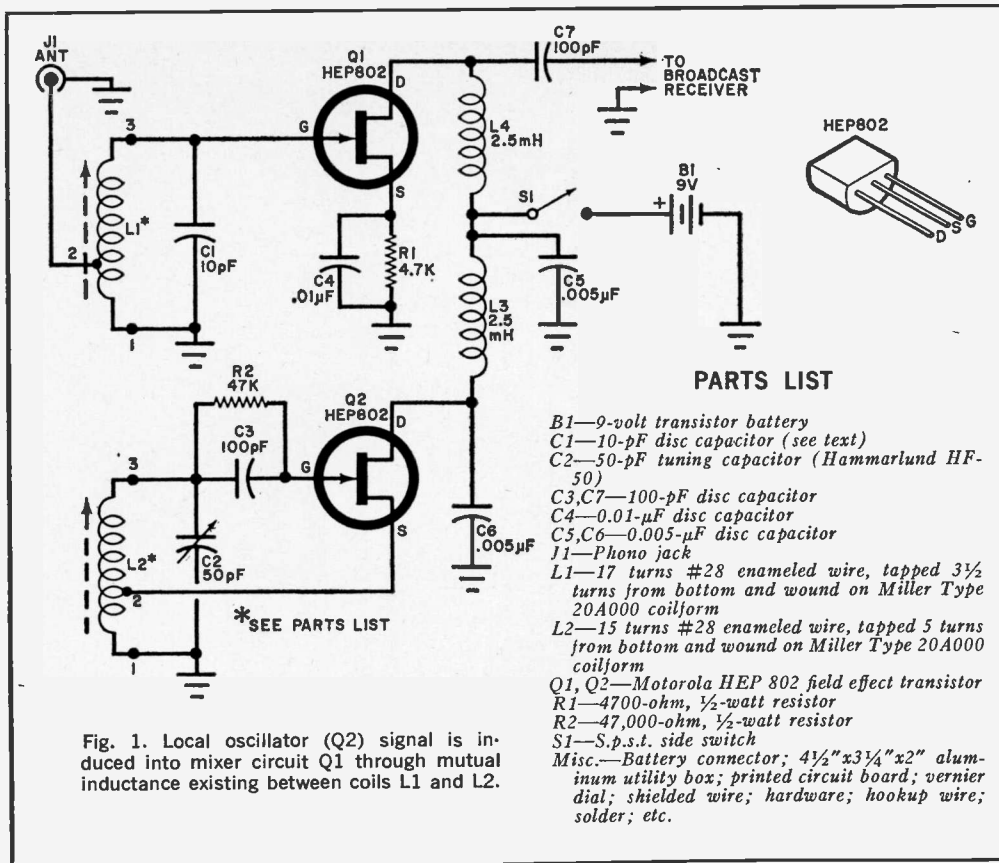

Fig. 1. Local oscillator (Q2) signal is induced into mixer circuit Q1 through mutual inductance existing between coils L1 and L2.
**About The Circuit.** The short-wave converter is designed to use to good advantage two field-effect transistors (FET's) that sell for less than a dollar apiece. Referring to Fig. 1, FET *Q1* is the mixer and FET *Q2* is the local oscillator for the converter.